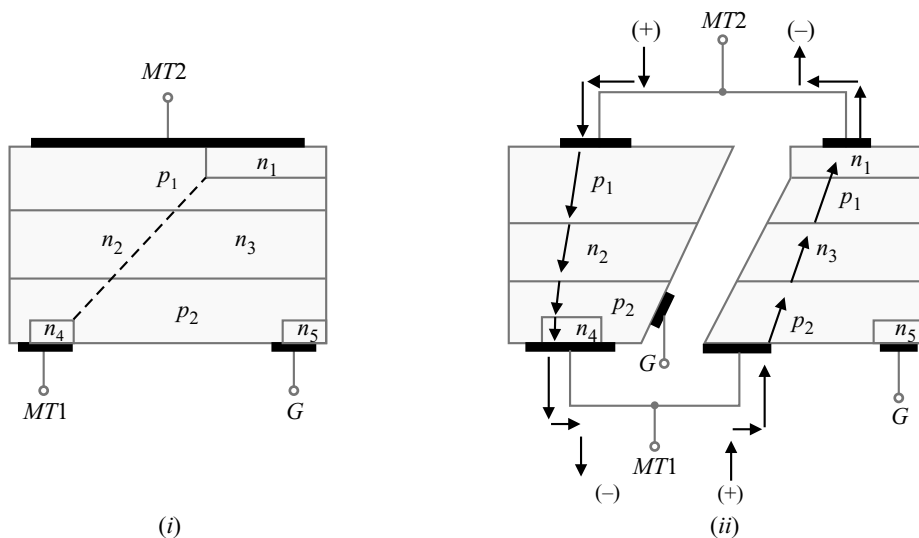
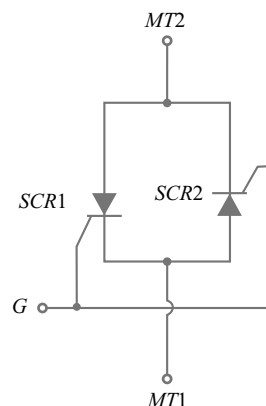

Fig. 19.3
Fig. 19.4
We shall now see that a triac is equivalent to two separate *SCRs* connected in inverse parallel (*i.e.* anode of each connected to the cathode of the other) with gates commoned. Fig. 19.3 (i) shows the basic structure of a triac. If we split the basic structure of a triac into two halves as shown in Fig. 19.3 (ii), it is easy to see that we have two *SCRs* connected in inverse parallel. The left half in Fig. 19.3 (ii) consists of a *pnpn* device ( $p_1n_2p_2n_4$ ) having three *pn* junctions and constitutes *SCR1*. Similarly, the right half in Fig. 19.3 (ii) consists of *pnpn* device ( $p_2n_3p_1n_1$ ) having three *pn* junctions and constitutes *SCR2*. The *SCR* equivalent circuit of the triac is shown in Fig. 19.4.
Suppose the main terminal *MT2* is positive and main terminal *MT1* is negative. If the triac is now fired into conduction by proper gate current, the triac will conduct current following the path (left half) shown in Fig. 19.3 (ii). In relation to Fig. 19.4, the *SCR1* is *ON* and the *SCR2* is *OFF*. Now suppose that *MT2* is negative and *MT1* is positive. With proper gate current, the triac will be fired into conduction. The current through the devices follows the path (right half) as shown in Fig. 19.3 (ii). In relation to Fig. 19.4, the *SCR2* is *ON* and the *SCR1* is *OFF*. Note that the triac will conduct current in the appropriate direction as long as the current through the device is greater than its holding current.
**Solution.** We have seen that transistor equivalent circuit of an *SCR* is composed of *pnp* transistor and *npn* transistor with collector of each transistor coupled to the base of the other. Since a triac is equivalent to two *SCRs* connected in inverse parallel (Refer back to Fig. 19.4), the transistor equivalent circuit of triac will be composed of four transistors arranged as shown in Fig. 19.6 (i). The transistors  $Q_1$  and  $Q_2$  constitute the equivalent circuit of *SCR1* while the transistors  $Q_3$  and  $Q_4$  constitute the equivalent circuit of *SCR2*. We can explain the action of triac from its transistor equivalent circuit as under :